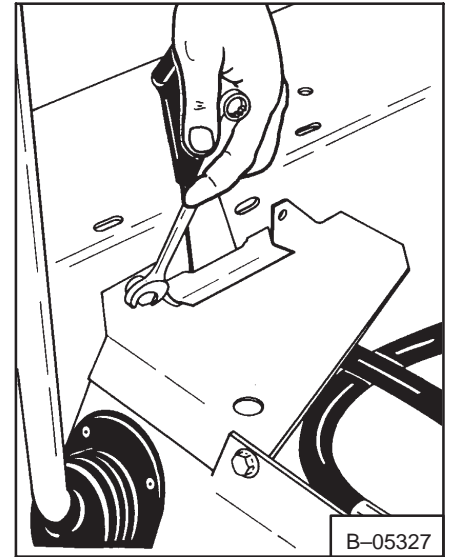

Fig. 3-4 Removing Side Shield
4. Remove the bolts and remove the side shields (Fig. 3-4) on both sides.
6. Install the side shields (both sides) and tighten the bolts (Fig. 3-4).